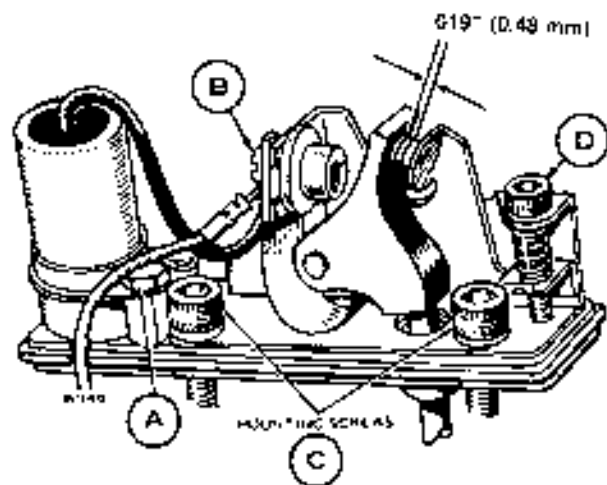

FIGURE 10-33. BREAKER POINT ADJUSTMENT
3. Remove condenser (screw A) and detach condenser lead and coil lead (screw B), Figure 10-33.